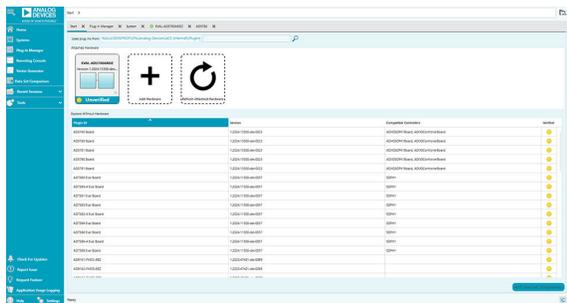

Figure 2. ACE Software Main Window
2. Run the **ACE Software** application. The EVAL-AD5780ARDZ plug-in appears in the **Attached Hardware** section of the **Start** tab, as shown in **Figure 2**.